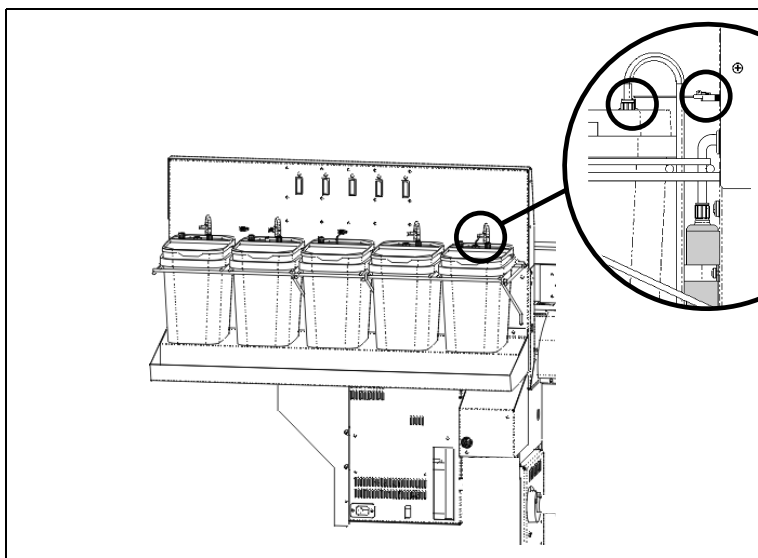

Fig. 1-7. Installing the reservoirs
- ◆ Connect the hook-shaped tube to the reservoir's draw tube, by pressing down until it seats with a click, and turning the screw-on connector 3/4 to 1 turn. See Fig. 1-7 below for location.
- ◆ Connect the float sensor cable from the reservoir to the data port on printer. See Fig. 1-7 below for location.